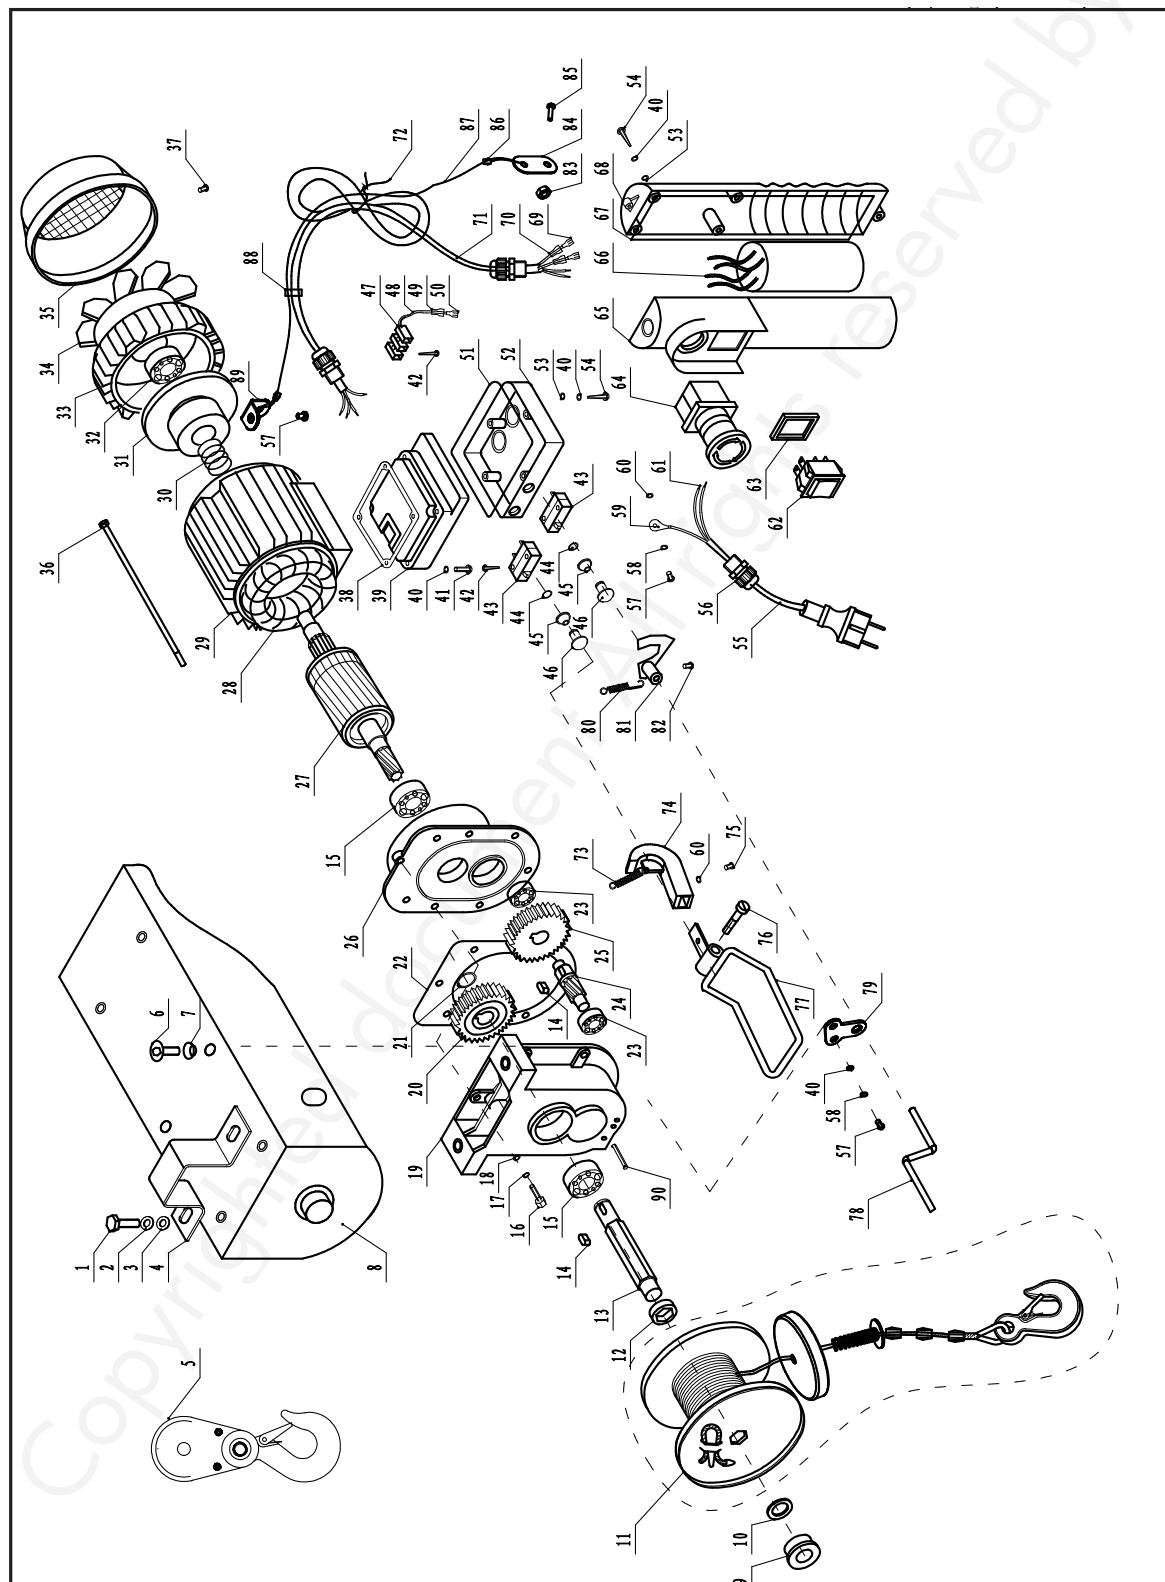

Fig. 5
- If the steel cable is damaged (split or bent, see fig. 5 below), a professional must replace it using original replacement parts.